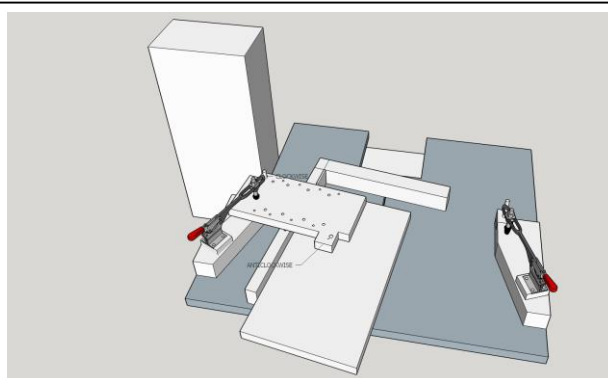

Figure 3: LHS Clockwise Tails
- c. Cut the other side of the tails as for (2) above. See figure 3.